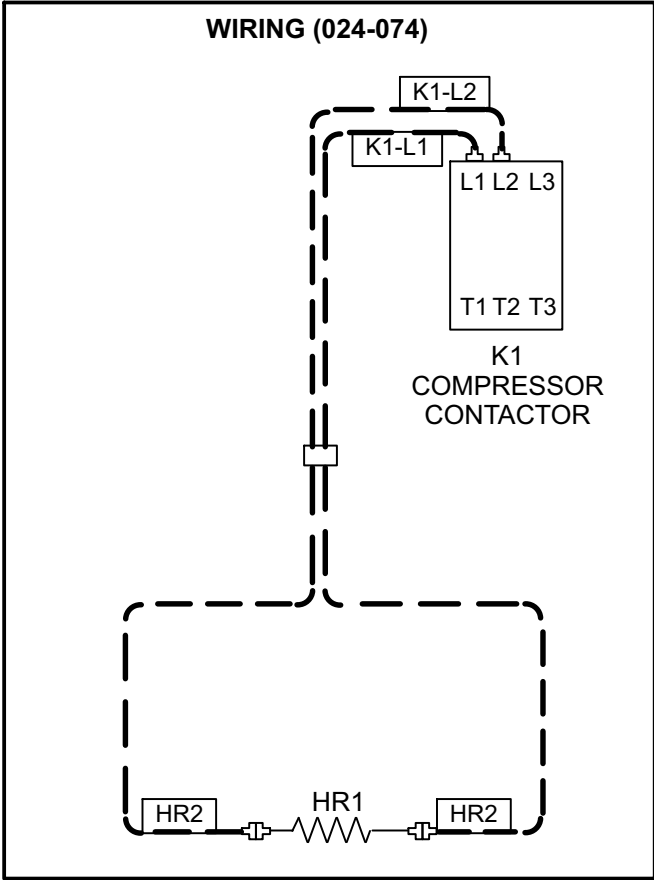
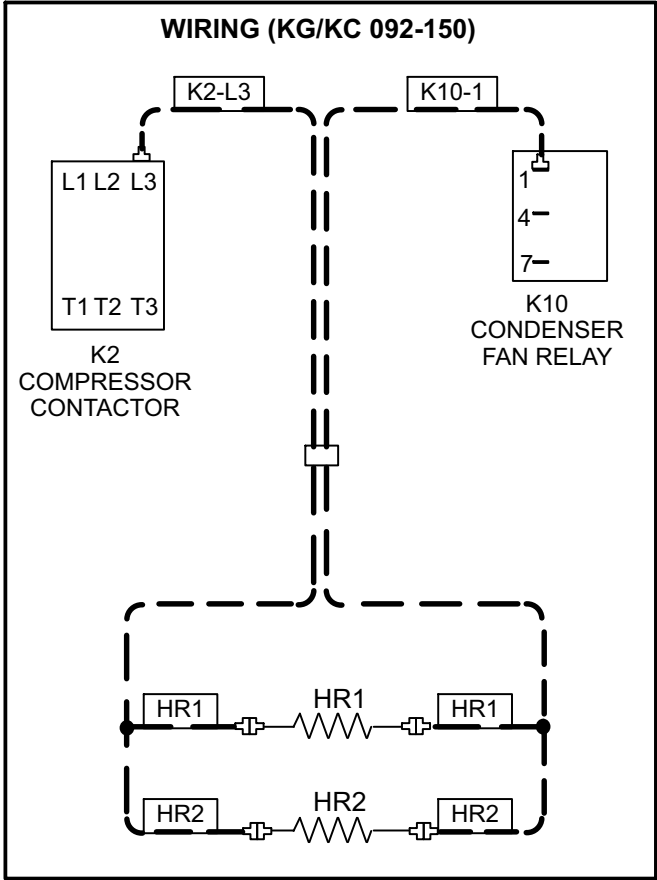
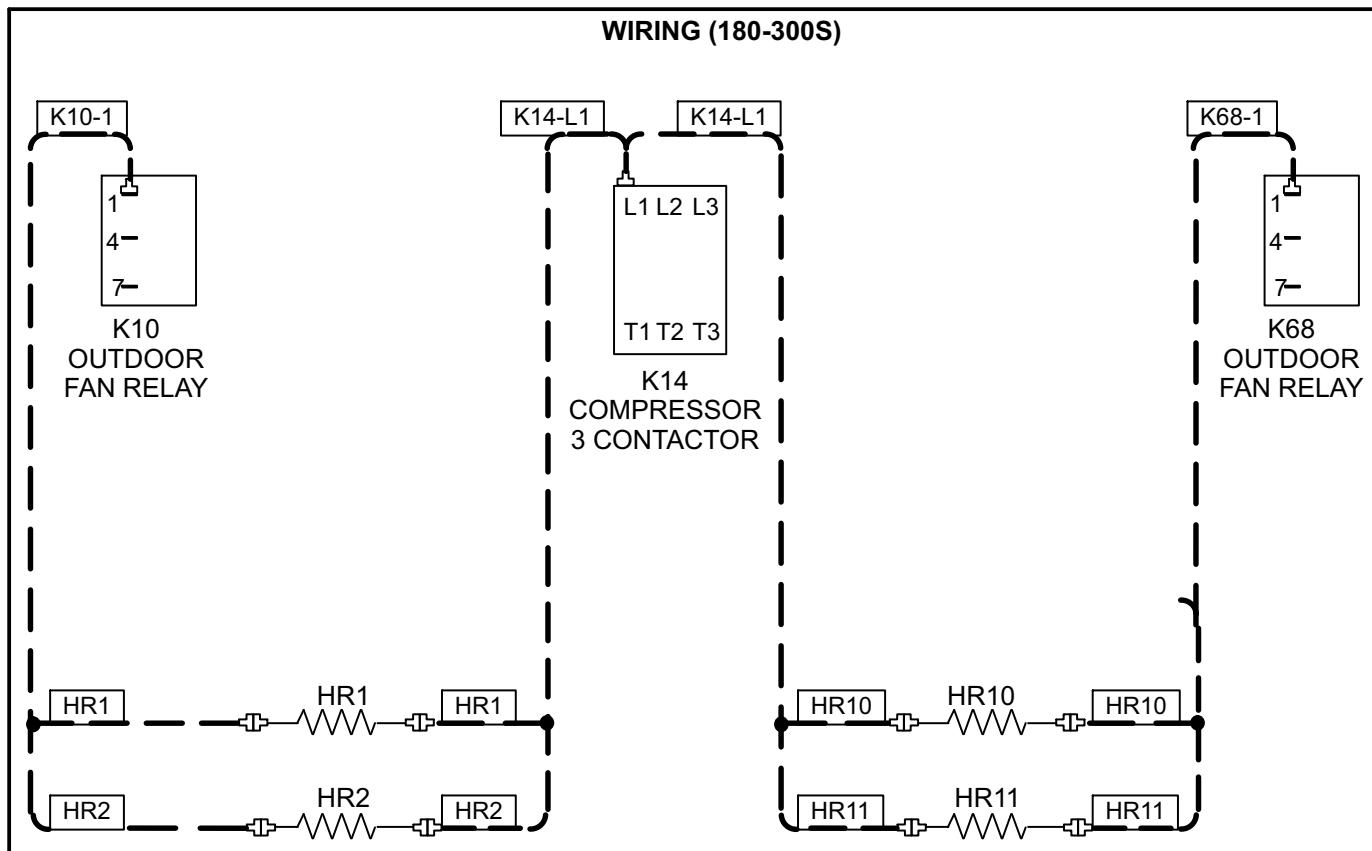

FIGURE 5
FIGURE 6
FIGURE 7
- 4- Use markings on wires to connect harness as shown in figure 5 for 024-074 units, figure 6 for KG/KC 092-150 units, and figure 7 for 180-300S units. Also refer to unit wiring diagram.